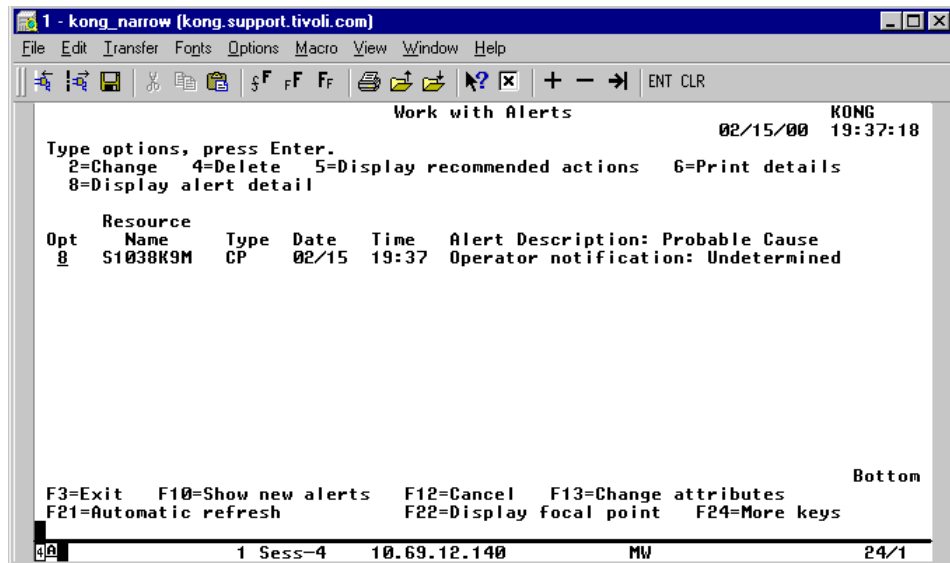

Figure 188. Work with Alerts
3. Issue the Work with Alerts command, `WRKALR`, to verify that your alert has been created as expected. A panel similar to the one shown in Figure 188 on page 339 may appear.